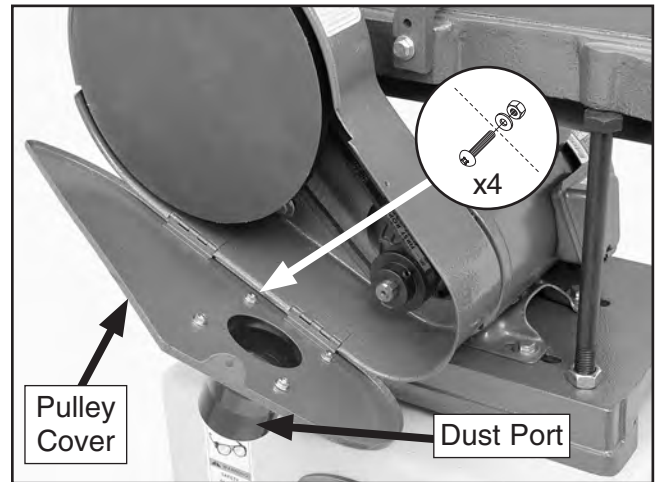

Figure 31. 2½" dust port installed.
9. Install the 2½" black plastic dust port onto the pulley cover with the (4) #10-24 Phillips head screws, #10-24 hex nuts and #10 flat washers, as shown in **Figure 31**.